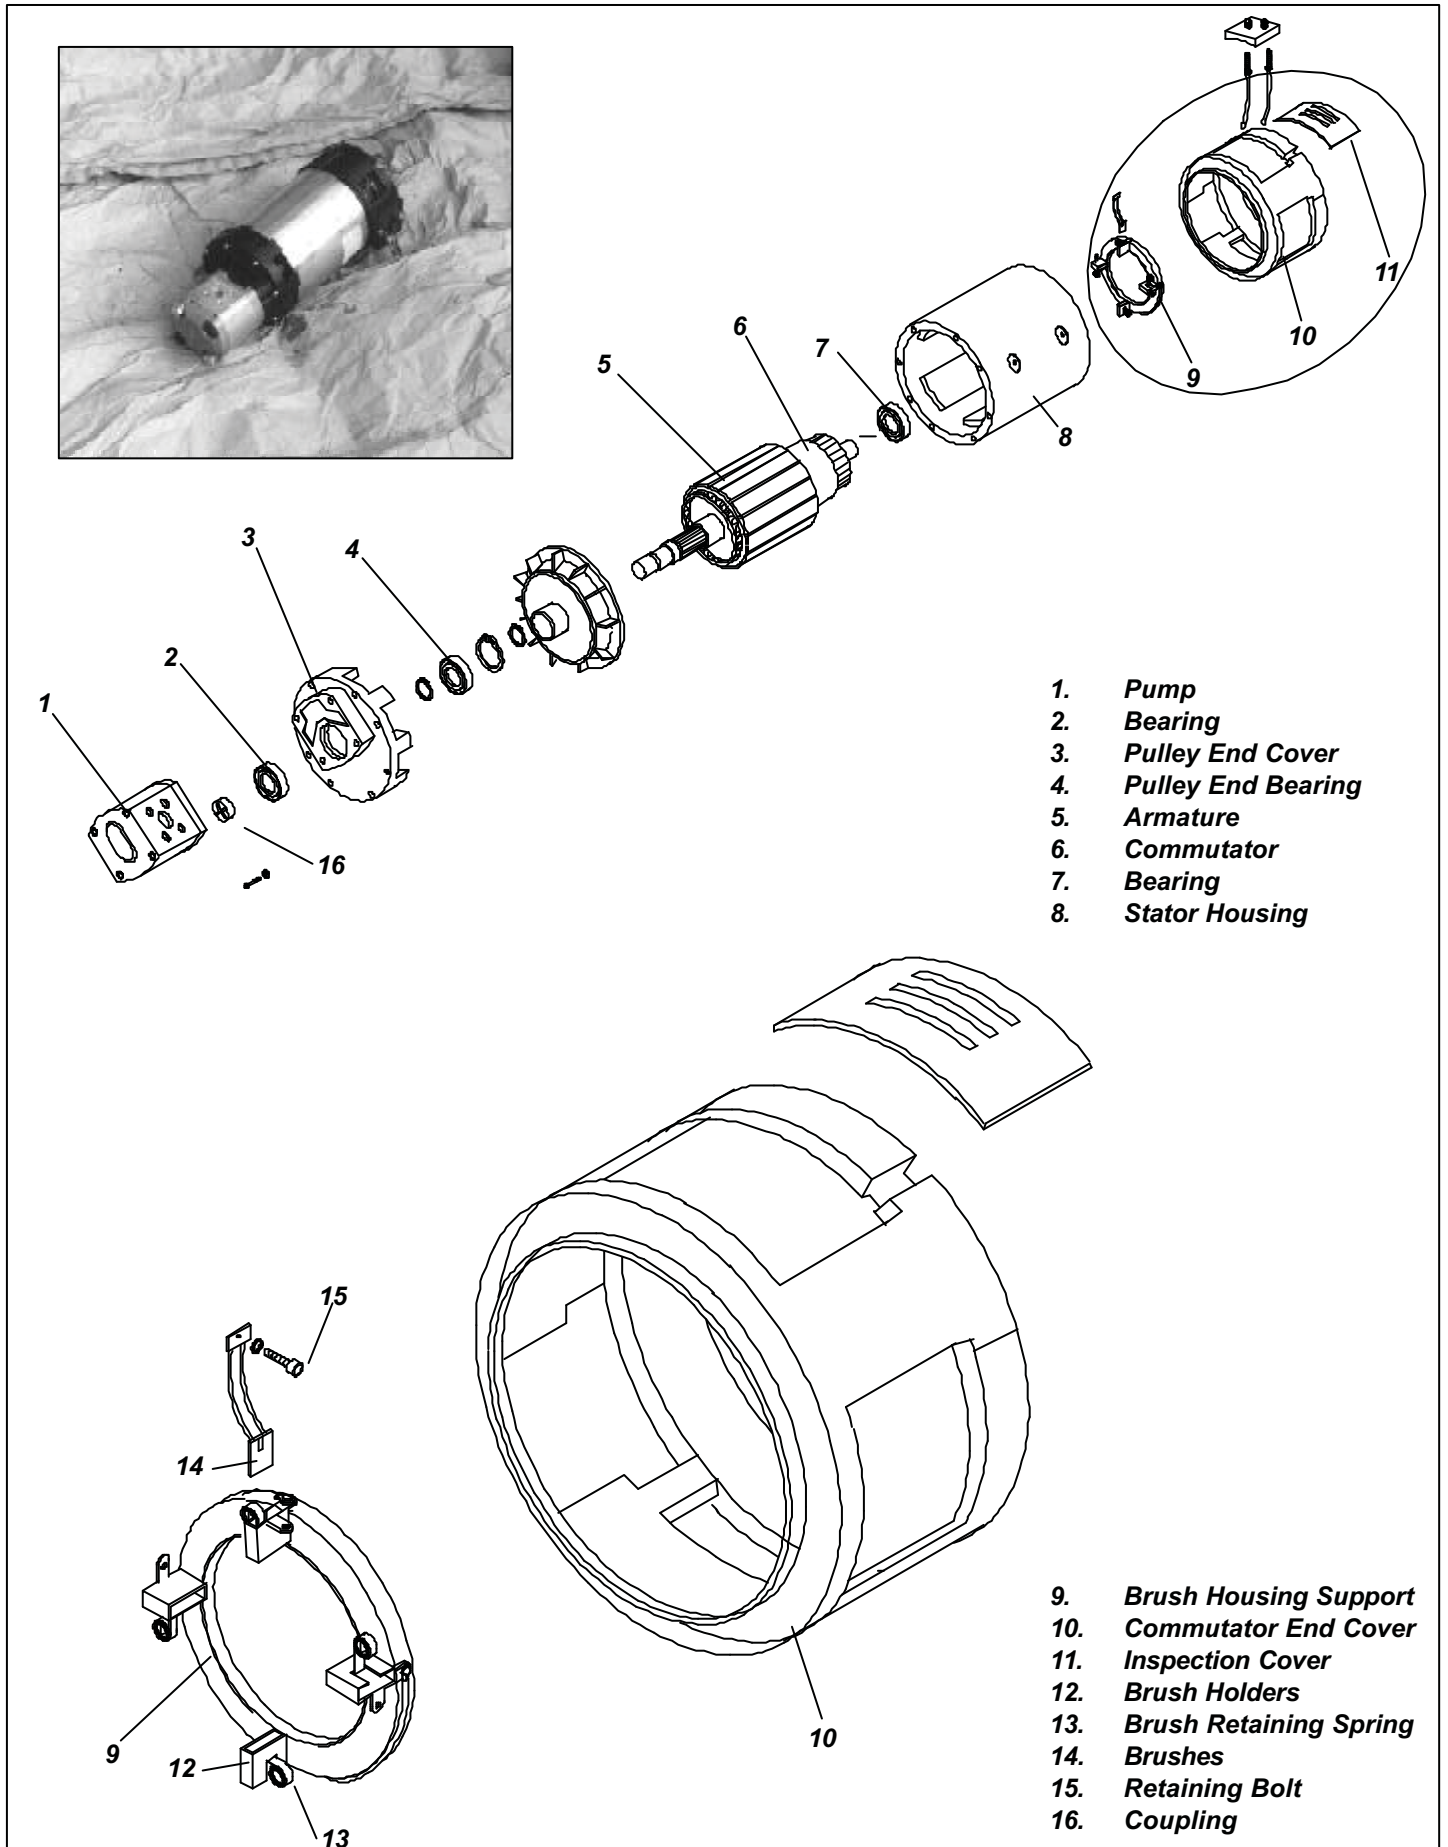

Figure 4-13: Electric Motor Assembly
4.11 Electric Pump Motor (Figure 4-13)